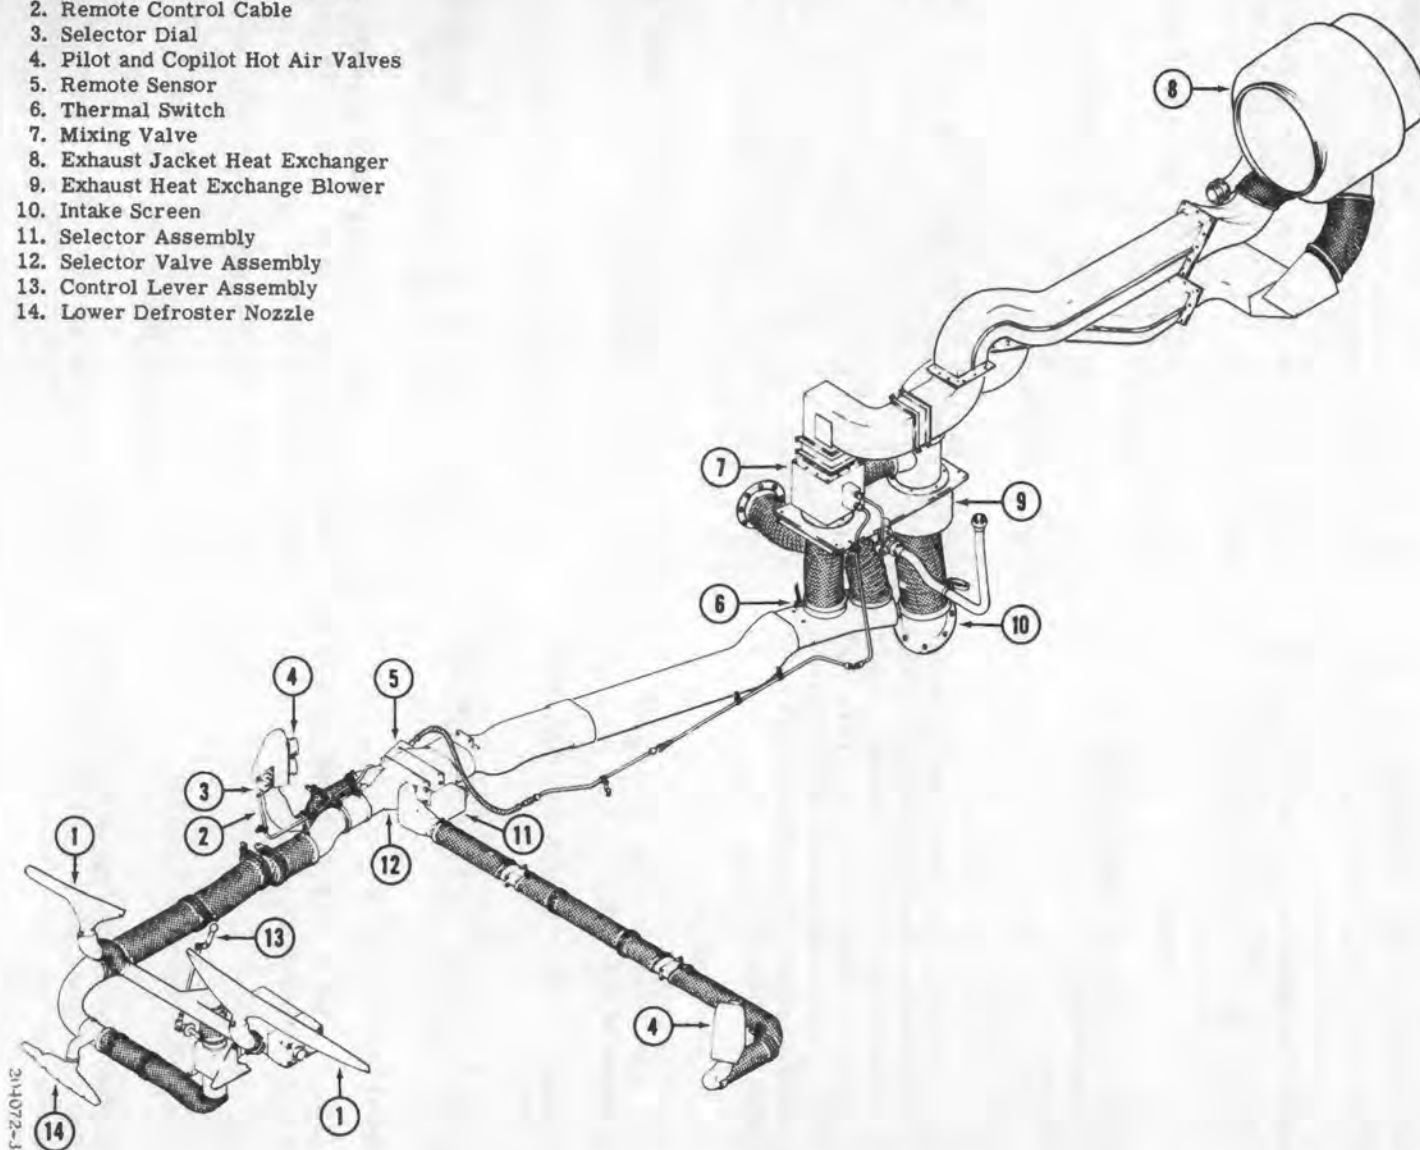

Figure 11-3. Auxiliary exhaust heater
11-250. Auxiliary Exhaust Heater UH-1B 65-9416 and Subsequent. (See figure 11-3.) The auxiliary exhaust heater system consists of a heat exchanger on the exhaust tailpipe, a blower for circulating the air through the heat exchanger, a mixing valve to maintain the desired temperature, a selector valve assembly which controls the flow of air to aft cabin outlet ducts, a selector dial to actuate the remote sensor which controls the mixing valve, and a control lever assembly. A screen covers the inlet duct of the blower.
11-251. Heater Exchanger. (See figure 11-3.) The heat exchanger (8) is mounted on the tailpipe of the engine and serves to heat the air as it is circulated through the distribution system by the blower.
11-254. Blower. (See figure 11-3.) A bleed air driven ventilation blower (9) is connected to ducts leading into the inlet port of the exhaust heat exchanger.
11-257. Mixing Valve Assembly. (See figure 11-3.) The mixing valve (7) controls the flow of air from the heat exchanger to maintain the desired temperature. Increase or decrease of bleed air pressure dictated by the remote sensor uses bleed air pressure through the actuator to drive the butterfly to the correct position to admit or restrict entrance of air into the distribution system.
11-260. Remote Sensor. (See figure 11-3.) The remote sensor (5) senses the temperature air in the distribution duct and controls the mixing valve by increasing or decreasing bleed air pressure against the butterfly to maintain the selected temperature.
11-263. Selector Valve Assembly. (See figure 11-3.) The selector valve assembly (12) controls the flow of air to the aft cabin.
11-266. Ducts, Nozzles, Registers, Gaskets and Miscellaneous Valves. (See figure 11-3.) Maintain heater miscellaneous components in accordance with paragraph 11-267 through 11-270.